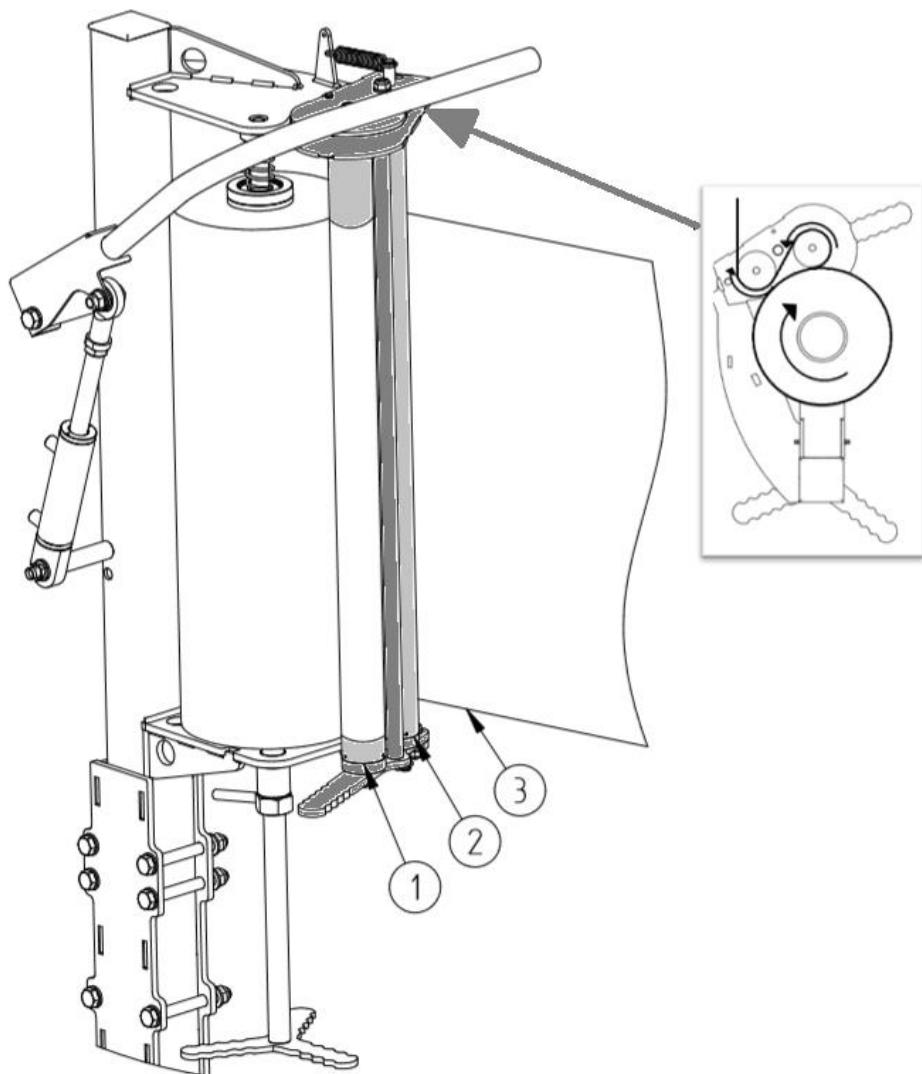

Figure 32 Film threading direction
- Clean and lubricate the roller unit (1) of the dispenser using silicone spray.
- Swing the roller unit (1) out.
- Loosen the jam nut (2).
- Lower the lower holder cone (4) by removing the pressure screw (3).
- Position the film roll onto the holder cones (4) and (5), starting from the upper cone (5).
- Move the lower holder (4) by screwing the screw (3) upwards.
- Secure the position of the pressure screw (3) with the jam nut (2).
- Turn the roller unit (1) in such a way that one of them rests on the film.
- Thread the section of film you unrolled through the rollers according to the diagram shown on the dispenser decal (Figure 32).